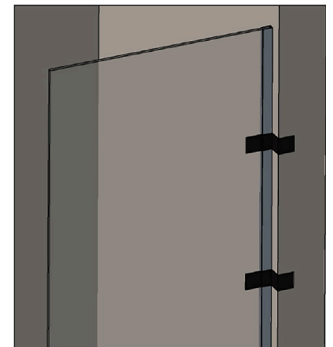

FIGURE 11A
Place Glass Blocks (Q) on base to protect edge of glass panel while adjusting for size (See Figure 11B). Set Glass Panel (P) on blocks and gently slide into Wall Channel (C). Make sure panel is as far in to the Wall Channel (C) as possible. **THE PURPOSE OF THIS STEP IS FOR SPACING ONLY. PANEL WILL BE REMOVED AGAIN, SO DO NOT PERMANENTLY ATTACH.** Using several pieces of tape, inside and outside, secure Glass Panel (P) to wall for the time being. (See Figure 11A)